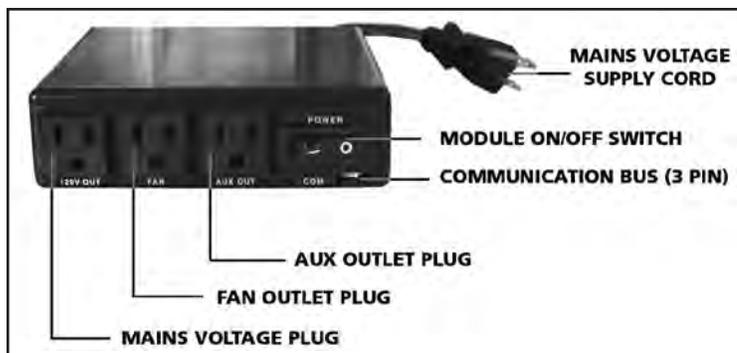

Figure 9: Proflame Fan Control Module.
Fan Control Module (FCM) offers the added ability to control the fan speed through six (6) speeds, a remotely actuated 120V outlet and a constantly powered 120V outlet. The FCM provides DC power to the Receiver allowing the batteries to be used only when line power is interrupted or lost (see Figure 9).